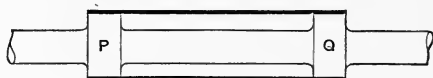

Fig. 3.
5. A steel shaft, 1 inch in diameter, is provided with enlarged portions P and Q , $1\frac{1}{2}$ inches in diameter. The shaft is held twisted by an axial torque of 40 feet-lbs. While in this condition a steel tube, $\frac{1}{20}$ -inch thick, is shrunk on to the enlarged portion as shewn in Fig. 3. When the tube has firmly gripped the shaft the applied torque is removed. Calculate what twisting couple remains in the shaft, assuming that the shaft and tube are made of the same material.